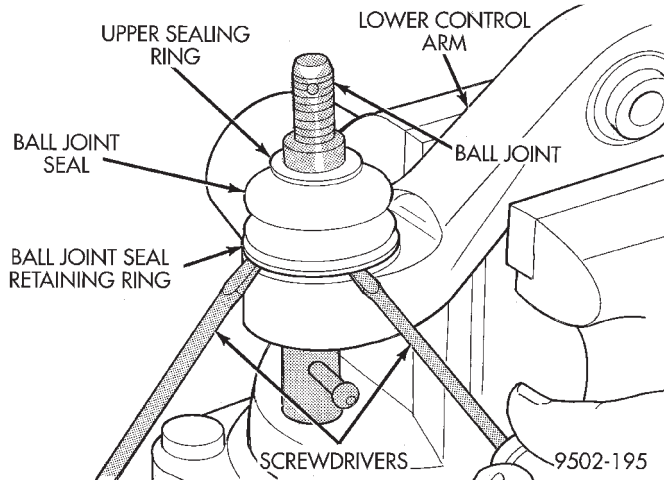

Fig. 106 Removing Ball Joint Seal Retaining Ring
(1) Remove lower control arm assembly from vehicle. See Lower Control Arm Removal in this section of the service manual for the required removal procedure.
(2) Wrap a shop towel around the ball joint and seal boot. This is to prevent dirt and cleaning solvent to enter ball joint when cleaning area around ball joint.
(3) Using **ONLY** a solvent such as Mopar Foamy Engine Degreaser or an equivalent, thoroughly clean lower control arm in area around ball joint and seal. Then using a shop towel saturated with the engine degreaser, carefully wipe off the ball joint seal boot.
(4) Using 2 screwdrivers (Fig. 106) remove the ball joint seal retaining ring from the bottom of the ball joint seal.
(5) Remove ball joint seal from ball joint.